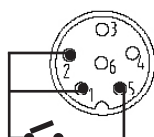

Figure 1
- The connection is as shown on figure 1.